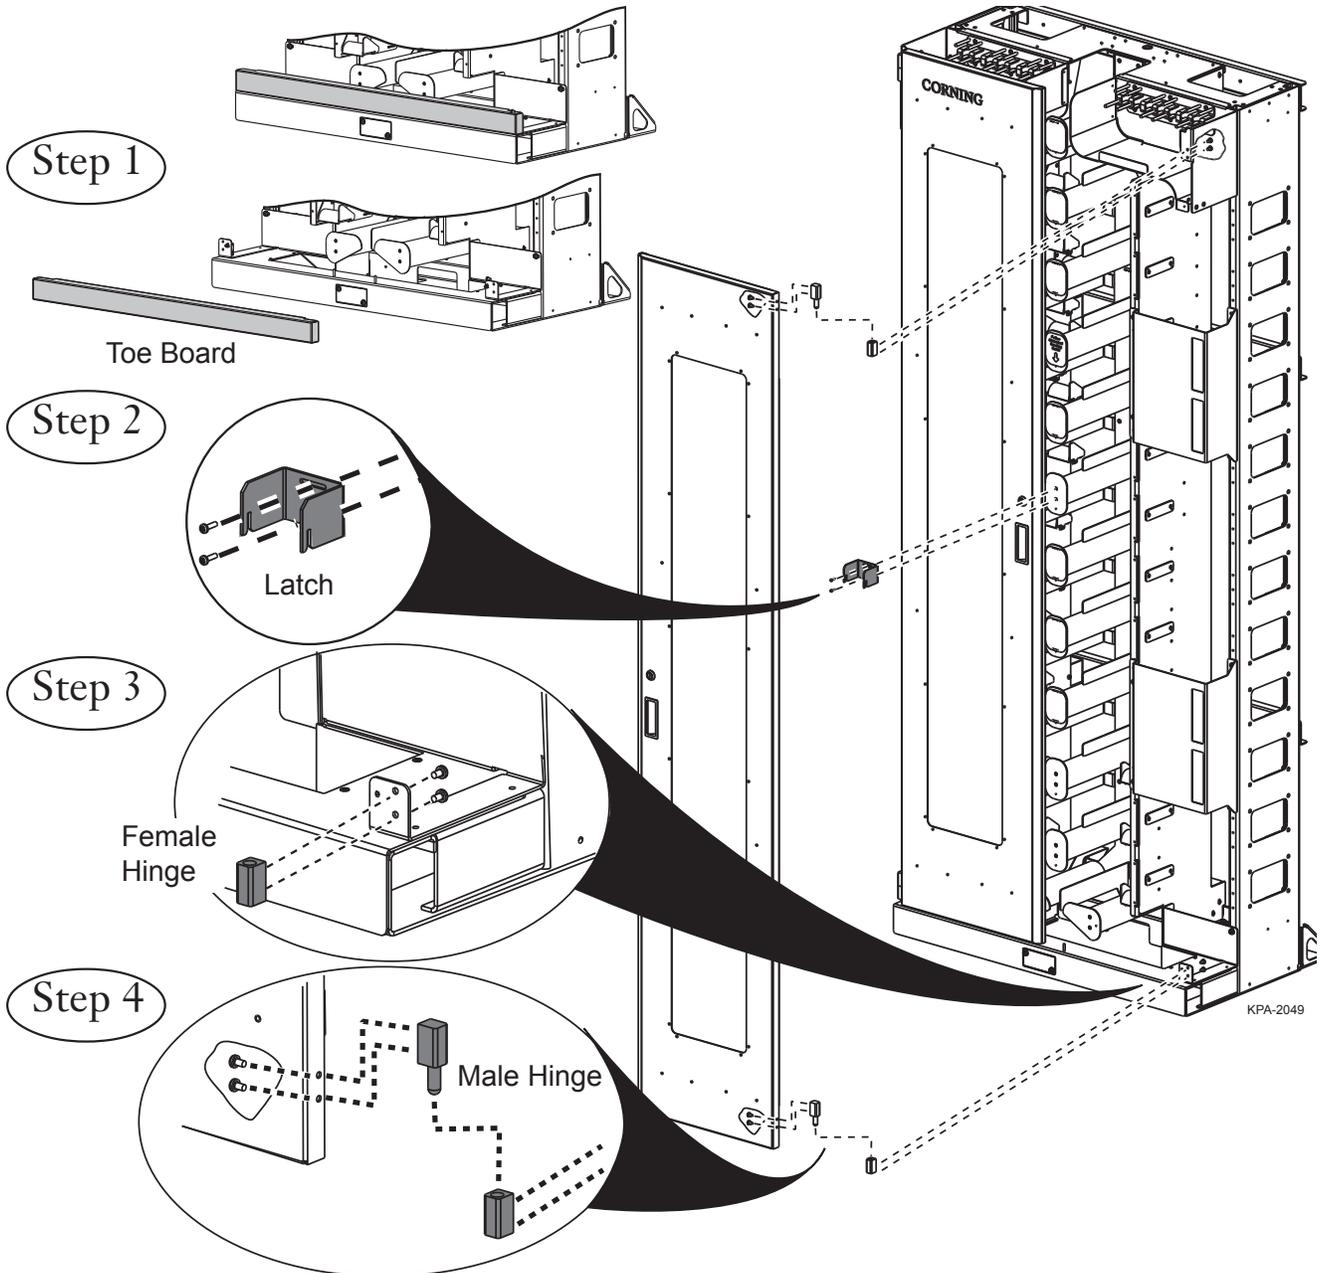

Figure 6 — Installing Double Doors
Double doors are available for both the right and left sides (Figure 6). To install double doors:
- Step 1:** Remove toe board from bottom front of frame as shown in Figure 6, Step 1.